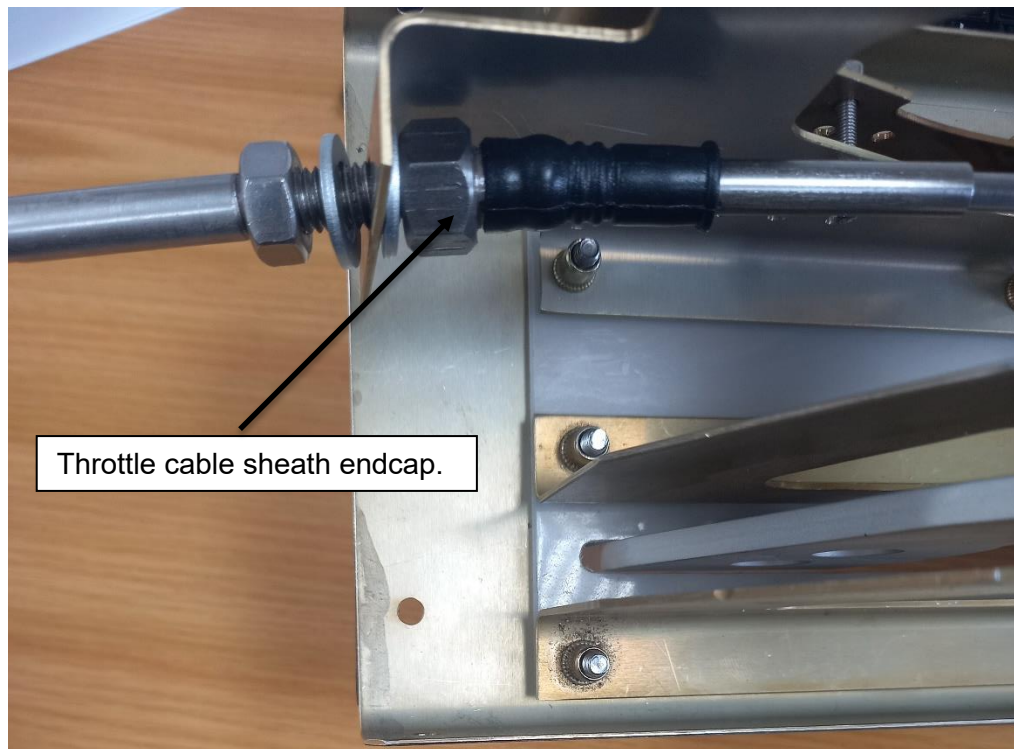

Figure 25
Step 6: Screw on the sheath endcap. Ensure that the play in the joint does not decrease once the end cap is screwed onto the sheath. If the joint has stiffened up, unscrew the nut by 1 rotation to allow sufficient play in the joint. Refer to Figure 25.